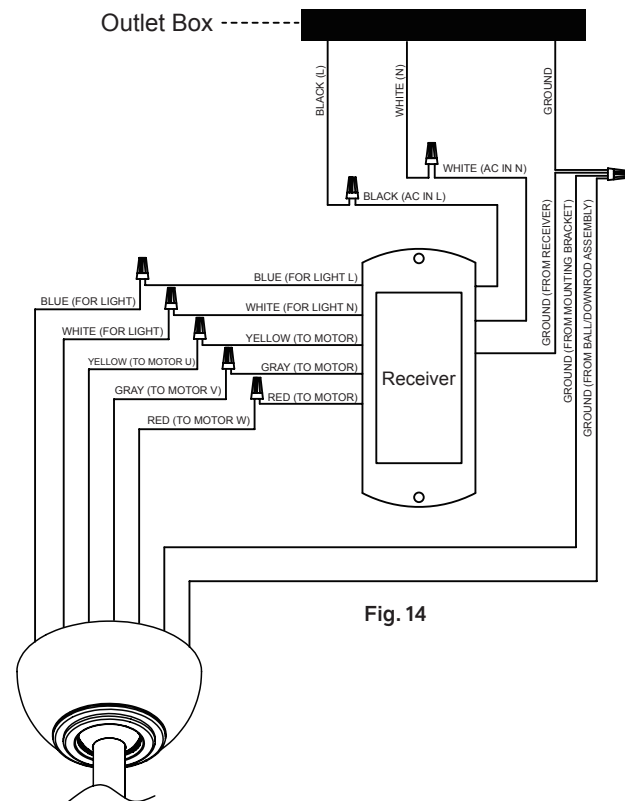

Fig. 14
Make each of the wire connections illustrated in Fig. 14. Secure each with the wire nuts provided.
Step 1. Connect the BLUE (FOR LIGHT) wire from the fan to BLUE wire marked “FOR LIGHT L” from the receiver. **(Fig. 14)**
Step 2. Connect the WHITE (FOR LIGHT) wire from the fan to WHITE wire marked “FOR LIGHT N” from the receiver. **(Fig. 14)**
Step 3. Connect the YELLOW (TO MOTOR U) wire from the fan to YELLOW wire marked “TO MOTOR” from the receiver. **(Fig. 14)**
Step 4. Connect the GRAY (TO MOTOR V) wire from the fan to GRAY wire marked “TO MOTOR” from the receiver. **(Fig. 14)**
Step 5. Connect the RED (TO MOTOR W) wire from the fan to RED wire marked “TO MOTOR” from the receiver. **(Fig. 14)**
Step 6. Connect the BLACK (L) supply wire from outlet box to BLACK wire marked “AC IN L” from the receiver. **(Fig. 14)**
Step 7. Connect the WHITE (N) neutral wire from outlet box to WHITE wire marked “AC IN N” from the receiver. **(Fig. 14)**
Step 8. Connect GROUND (GREEN) wires from mounting bracket, hanger ball, and receiver to household GROUND (GREEN) or BARE (COPPER). **(Fig. 14)**